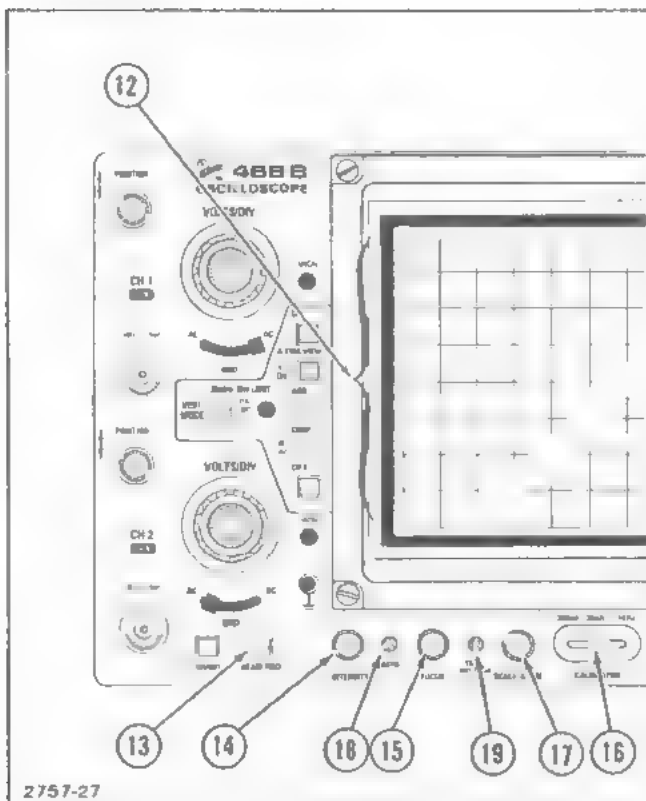

Figure 2-4. Display controls and calibrator.
Refer to Figure 2-4 for location of items 12 through 19
- ⑫ **Internal Graticule**—Eliminates parallax. Risettime and amplitude measurement points are indicated at the left edge of the graticule.
- ⑬ **BEAM FIND Switch**—Compresses the display to within the graticule area and provides a visible viewing intensity to aid in locating off-screen displays.
- ⑭ **INTENSITY Control**—Determines overall brightness of the A Sweep and B Sweep crt displays. Interacts with B INTENSITY control on B Sweep crt displays.
- ⑮ **FOCUS Control**—Adjusts for optimum display definition.